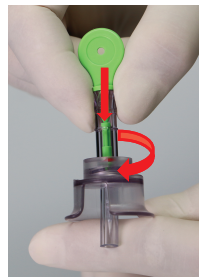

figure 5
- d) Insert Syringe into Filling Adapter by employing a clockwise turn, as shown in figure 5. Slide Protective sleeve off of the Filling Adapter spike.